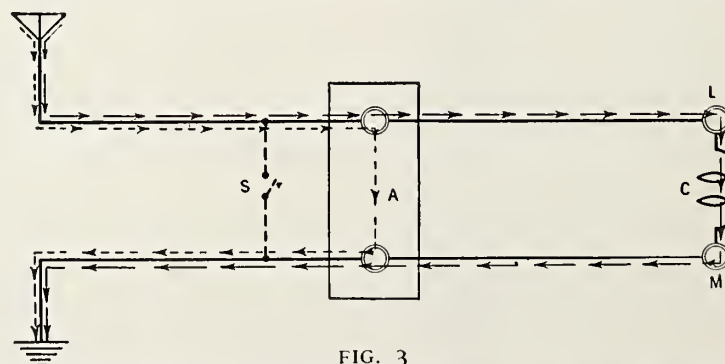

FIG. 3
WE NOW turn to Fig. 3, which shows an air gap type of lightning arrester connected to the radio-frequency input end of a receiver. Suppose a signal to be
3. If an antenna grounding switch is employed, it shall, in its closed position, form a shunt around the protective device. Such a switch shall not be used as a substitute for the protective device. (Note "S," Fig. 3).